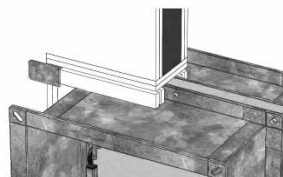

FIG.5
- 7 - Fill in the space between the wall and the damper using specifically sized plasterboard laths, using gypsum based adhesive to fill in any remaining holes (fig.5)